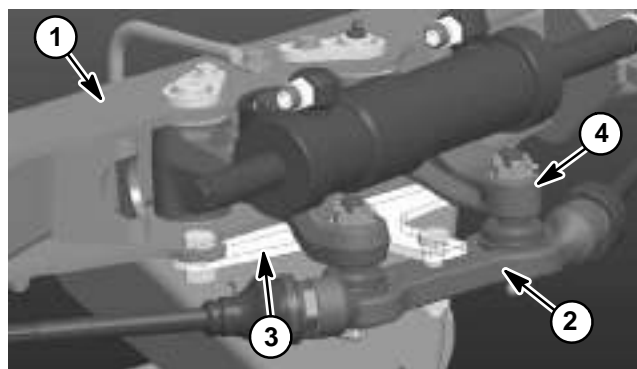

Figure 9
8. Secure front alignment tool (see Special Tools in this chapter) to front axle and center link (Fig. 9). If necessary to align front steering components with alignment tool, loosen hydraulic hoses on front steering cylinder to allow front cylinder movement independent of the rear steering cylinder. Then, use a large adjustable wrench to rotate front steering arm so that front steering components are aligned with alignment tool.